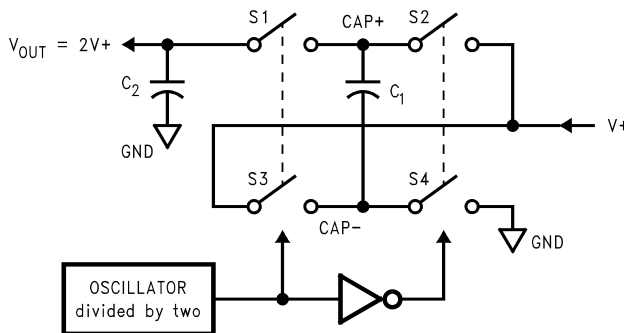

Figure 12. Voltage Doubling Principle
- R_{SW} is the sum of the ON resistance of the internal MOSFET switches shown in Figure 12. (1)